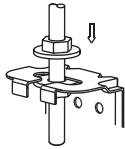

Fig.5-7
- Locate the air conditioner firmly by wrenching the nuts after having adjusted the body's position well.(refer to fig.5-7)